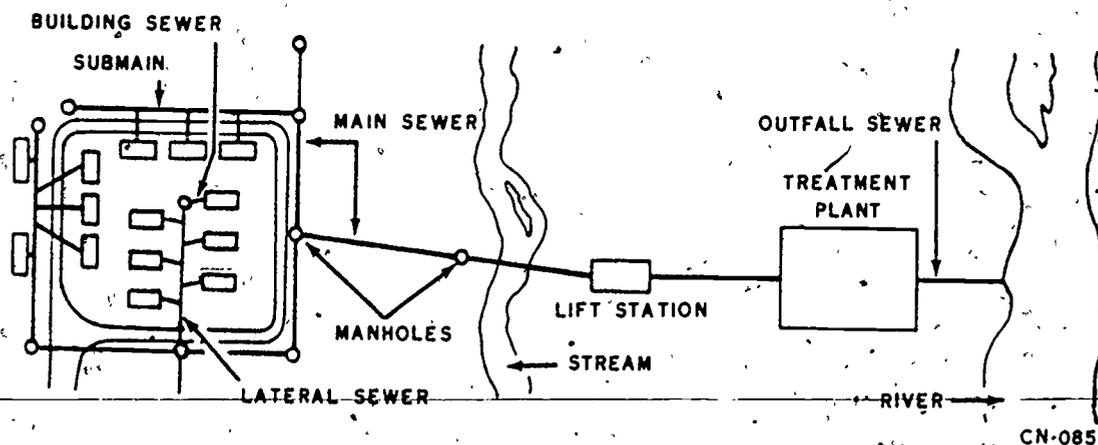

Figure 1-1 Typical exterior sewer system
**Components of Sanitary Sewer System.** A sanitary sewer system carries sewage from industrial and residential areas. The sanitary sewer network includes building sewers, lateral sewers, submains, sewer mains, outfall sewer, manholes, lift stations, and treatment plant. Figure 1-1 is an illustration of a typical sanitary sewer system. Refer to figure 1-1 as you read the description of the components of a sanitary system.